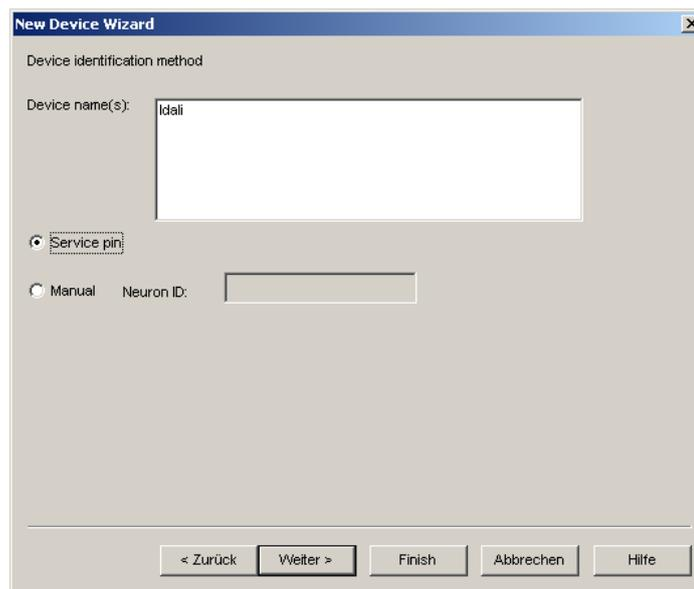

Figure 88: Use Service Pin.
6. Check Service Pin as the device identification method as shown in Figure 88 and click **Next**.